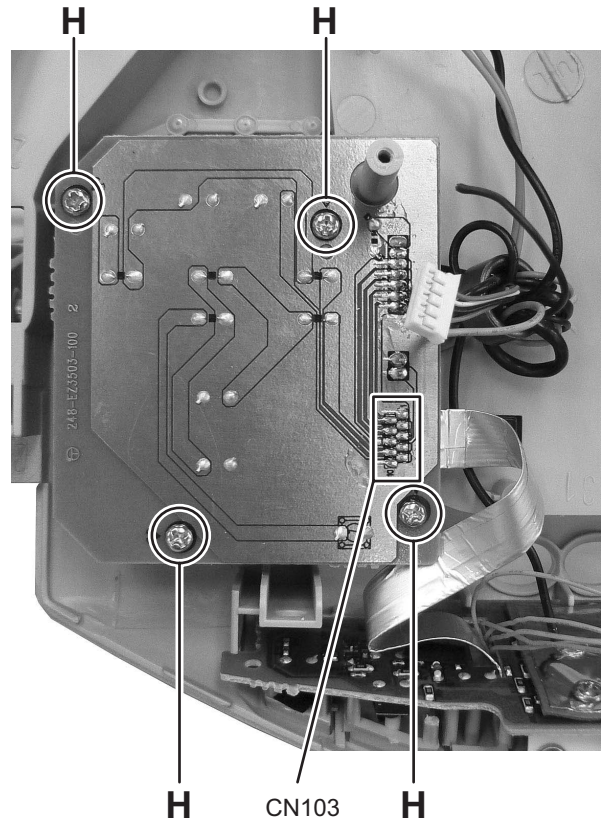

Fig.12
3.1.7 Removing the Function board assembly (See Fig.12)